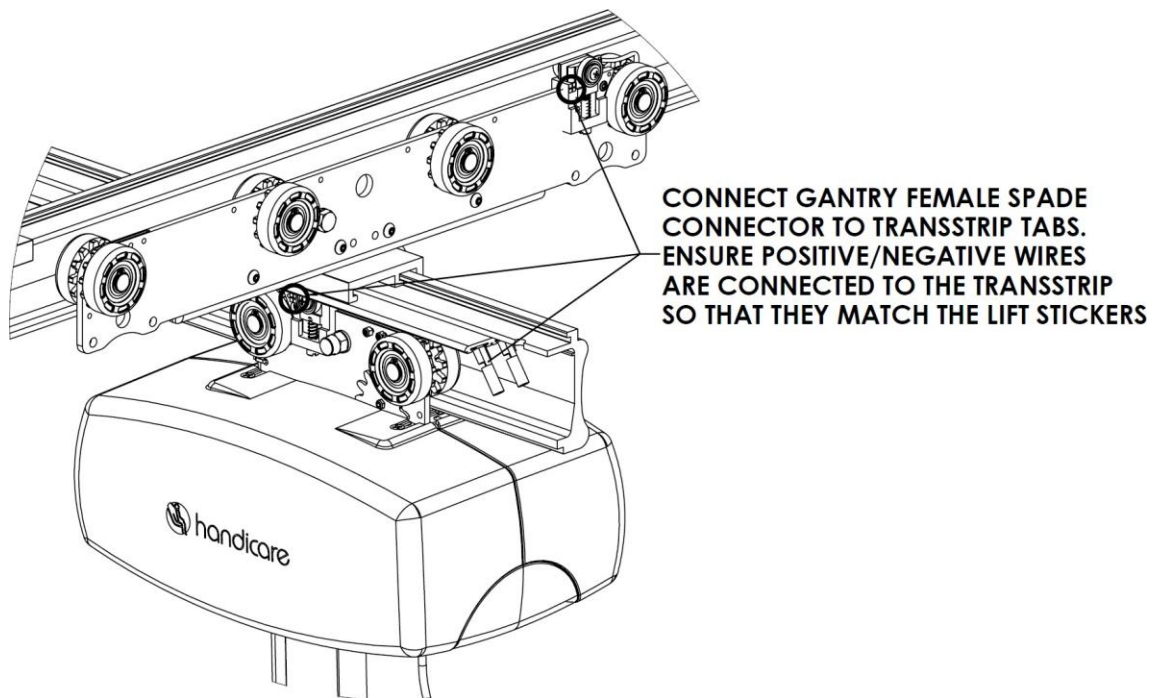

Figure 39: **Ensure Female Spade Connector and TransStrip Tabs are Connected to Match the Lift Stickers**
12. Connect the wires from the X/Y gantry to the traversing track TransStrip contacts (see Figure 39).